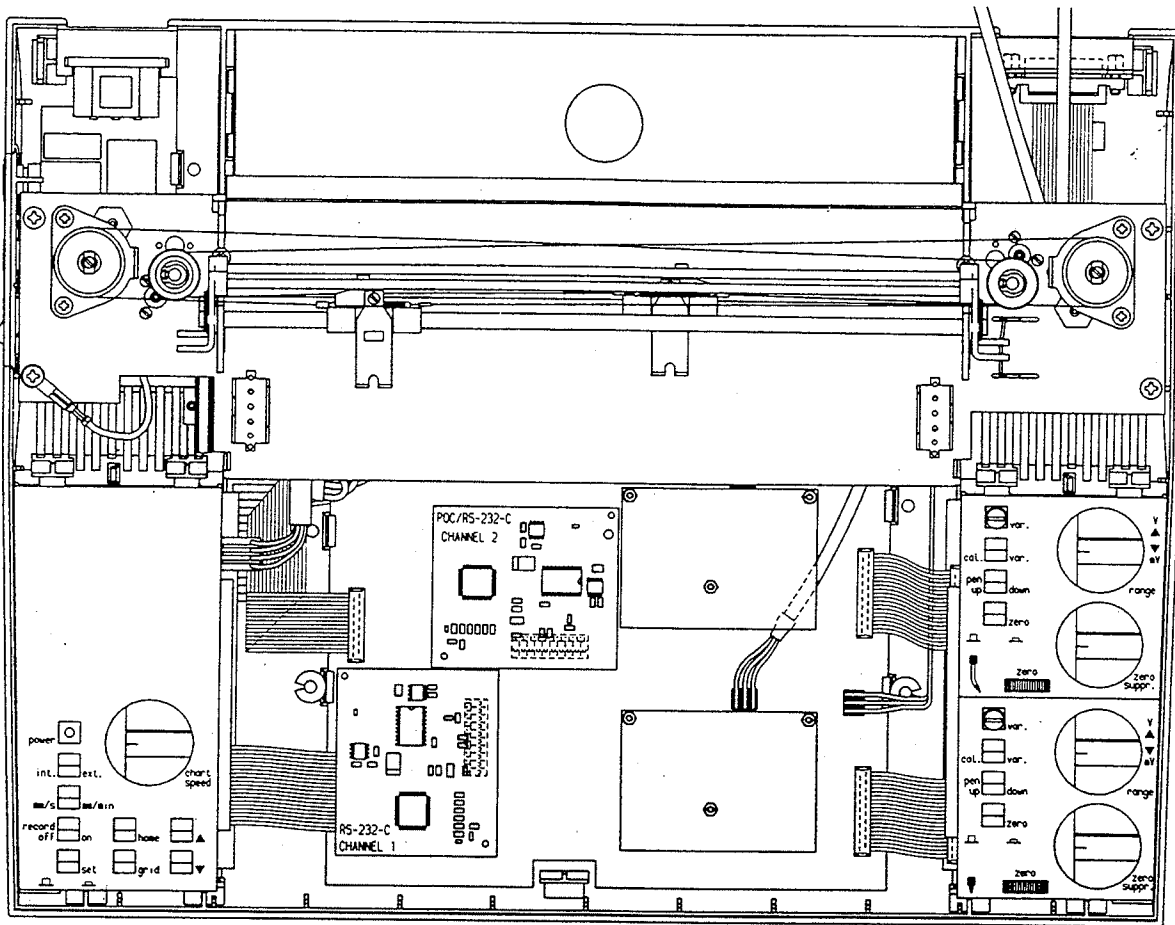

Figure 5-1. Mainboard Layout
- 4) Attach the POC module(s) onto the socket. See Figure 5-1. (Figure 5-1 also shows the locations of the modules on the board).
The serial data outputs of more than one channel are clamped together, so that information of both channels can be transmitted over the same two wires (see Figure 5-1) so a computer or printer can be used easily for further adaptation of the data, related to the pen deflection, while a full mutual isolation is maintained.